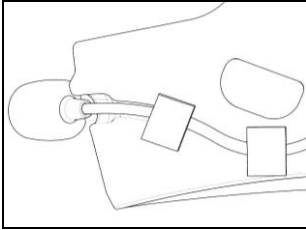
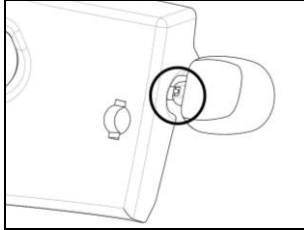

Fig. 44
Fig. 45
- Take the polystyrene check pad (left side) and position the microphone in the special housing, as illustrated in Fig. 44. Make sure that the side of the microphone with the caption “n” is facing the inside of the helmet (Fig. 45).
- Secure the microphone to the cheek pad using the “microphone securing stickers”, see Fig. 44.